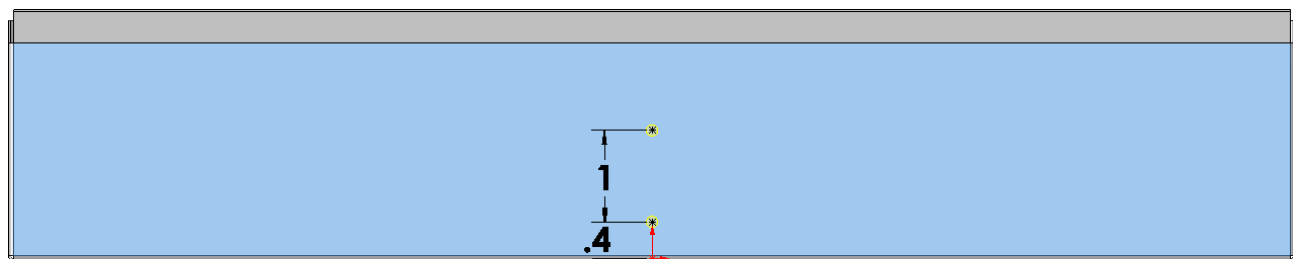

Fig. 20
Step 9. Click **Smart Dimension**  (S) on the Sketch toolbar.
Step 10. Add dimensions **Fig. 20**.